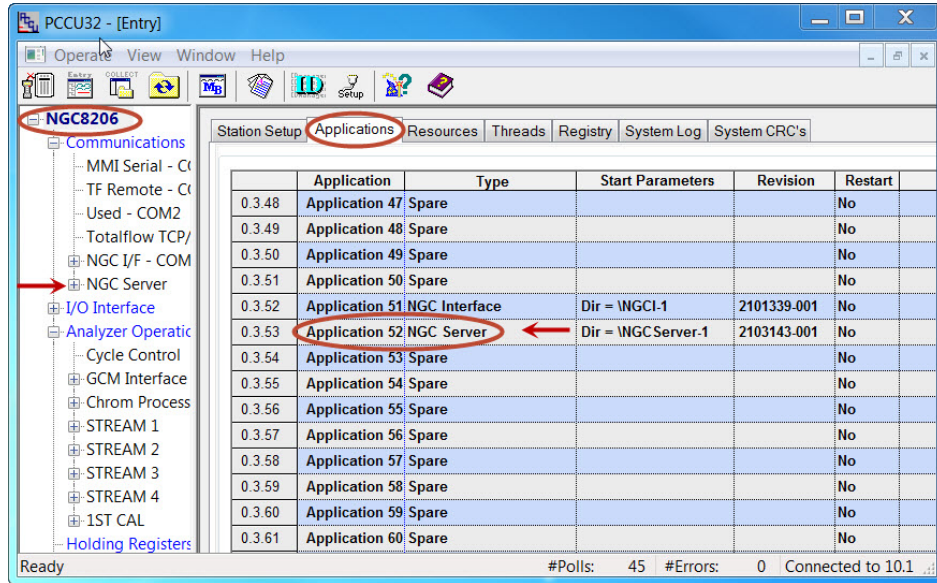

Figure 44. Add NGC Server Application
- Click re-read to verify the application has been added and it now appears in the application list associated with the correct application number. See Figure 44. The application is also added to the configuration tree view on the left and should be added under the “Communication” applications.